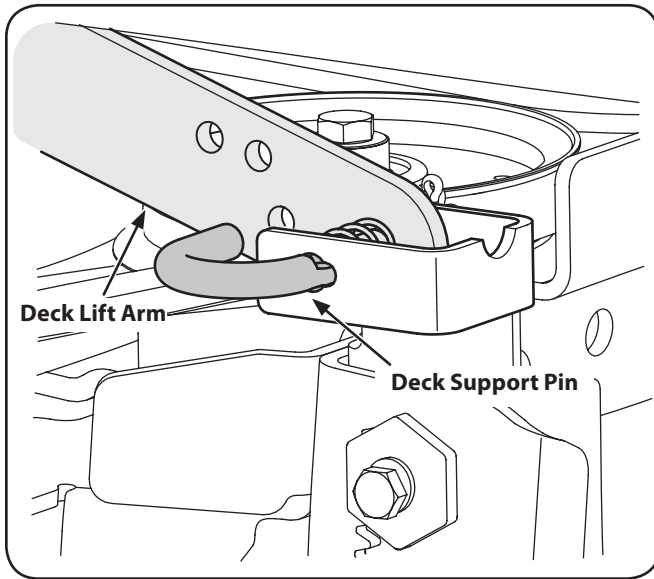

Figure 7-3
- Pull the deck support pin outward to release the deck from the deck lift arm. See Figure 7-3.